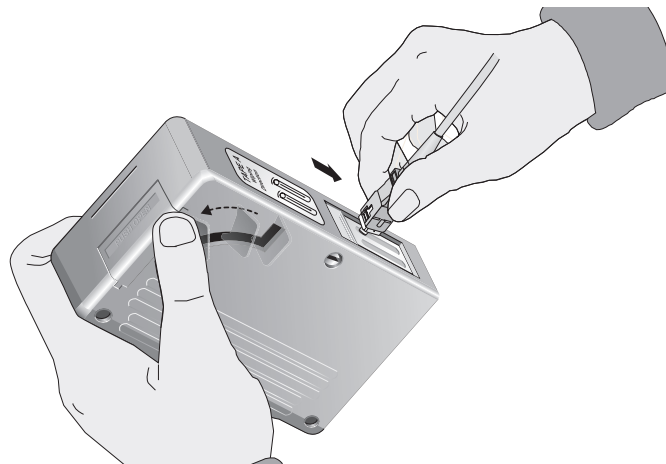

Figure 61. Rubbing the Ferrule Tip on the Cleaning Surface
7. With one hand, hold the cartridge cleaner and push the lever on the cleaning cartridge in the direction of the arrow to expose the cleaning surface, as shown in Figure 61.
8. Place the ferrule tip on the exposed cleaning surface and rub the ferrule in a downward direction, as shown in Figure 61.
1. Insert the swab into the adapter as shown in Figure 61 and rub the ferrule tip with the swab.